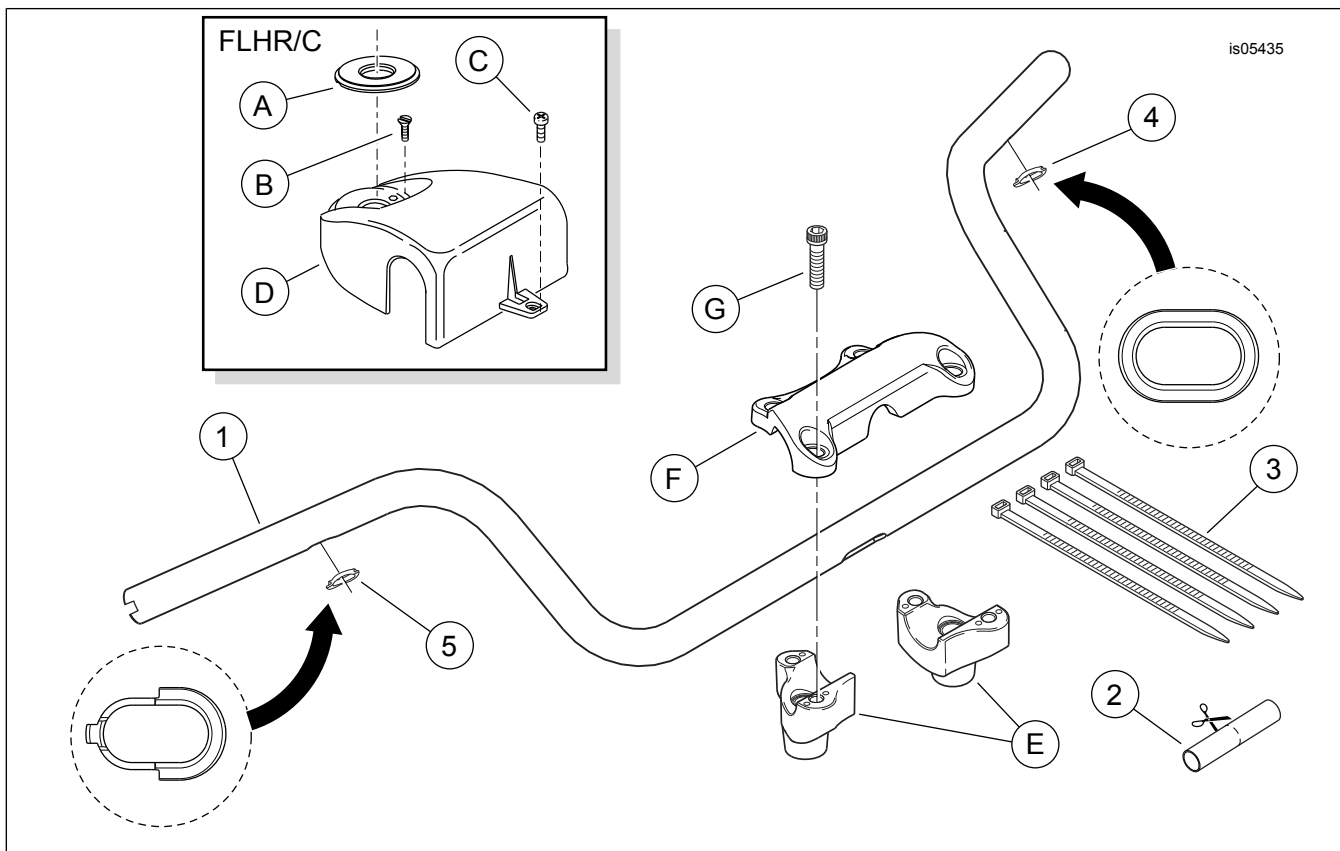

Figure 5. Service Parts, Handlebar Kits
9. See Figure 5. Obtain the rubber sleeve (2) from the kit. Cut the sleeve into two equal lengths. Slide a section of the sleeve onto each of the **switch-wire** bundles, over the flexible conduit, positioning the outboard edge of the sleeve against the inboard switch end.
2. See Figure 5. **For North America:** Obtain the handlebar clamp cover (D) and the two **flat head** Phillips screws (B, saved earlier). **For Australia, Brazil, England, Europe and Japan:** Obtain the handlebar clamp cover (D, saved earlier) and two **new** screws (B, Part Number 2935A, purchased separately).
3. Position the cover onto the flange at the top of the headlamp nacelle. Install the two screws (B) to secure the handlebar clamp cover to the fork lock mechanism. **For North America:** Tighten the flat head Phillips screws to 1.1–2.3 N·m (10–20 in-lbs). **For Australia, Brazil, England, Europe and Japan:** Tighten the special T-27 TORX® screws until the break-away heads snap off.
4. Press the original fork-lock label plate (A) into position on the handlebar cover.
5. Obtain the **pan head** Phillips screw, nut and flat washer removed earlier. Insert the screw (C) through the hole at the front of the handlebar cover and the top of the headlamp nacelle. Reach inside the nacelle and install the nut and flat washer onto the screw threads. Tighten the screw to 1.1–2.3 N·m (10–20 in-lbs).